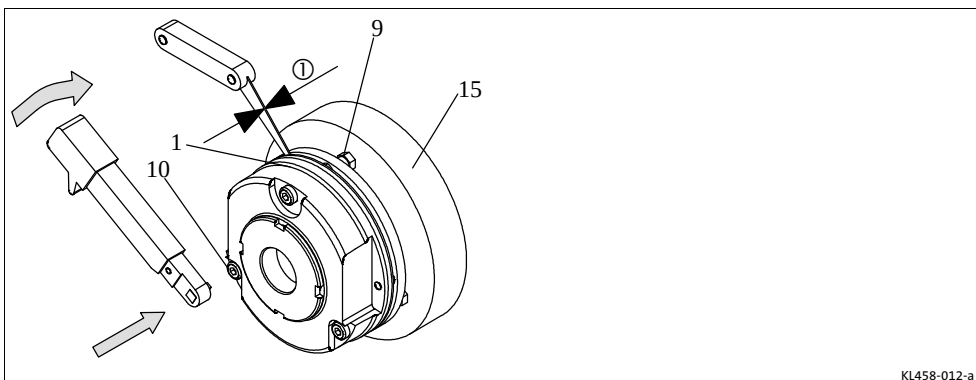

Fig. 4 Stator mounting
3. When assembling the stator (1), push the shaft sealing ring carefully over the shaft.
4. Use the screws (10) to mount the stator (7) completely to the end shield (15) (Fig. 4).